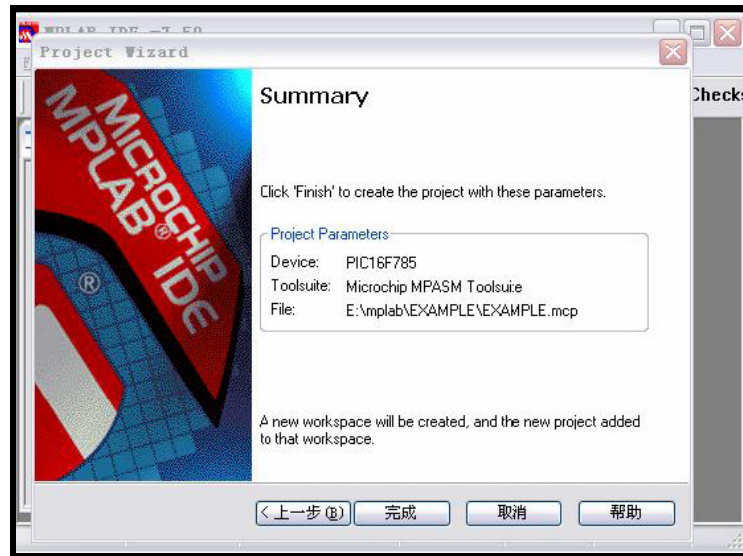

Figure 3-9 Tip interface
Step 6, click "Next", as shown in Figure 3-9 to come to tips interface.